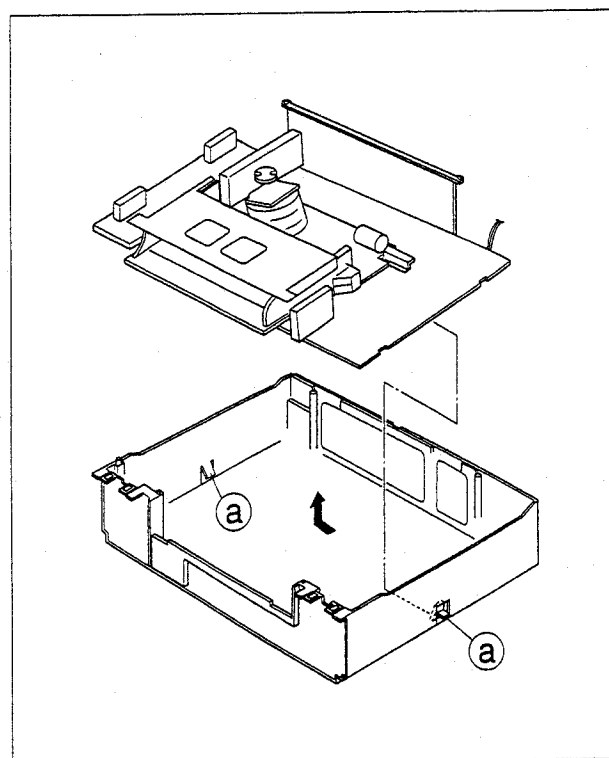

Fig. 1-5-2
- (3) Disengage 2 claws (a) from the chassis.
- (4) Remove the Mechanism assy (including Cassette housing) and Main board assy out of the chassis as shown in Fig. 1-5-2.